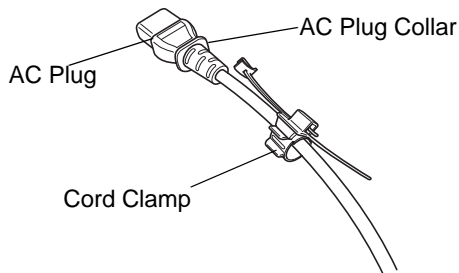

Figure 1
- (1) Open the AC Power Cord Clamp and insert the AC Power Cord as shown in fig. 1. Then, close the Cord Clamp until it clicks into place and locks around the AC Power Cord Collar.